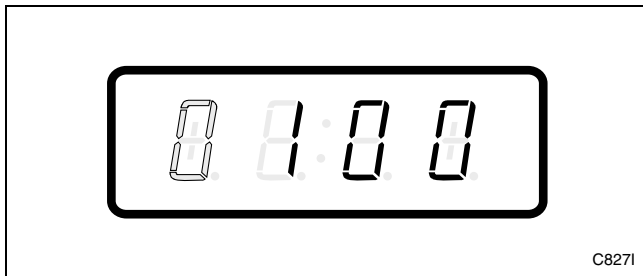

Figure 35
6. Press the START (enter) keypad to enter the fifth digit and display remaining four digits. The active digit will flash one second on and one second off. Refer to *Figure 35*.